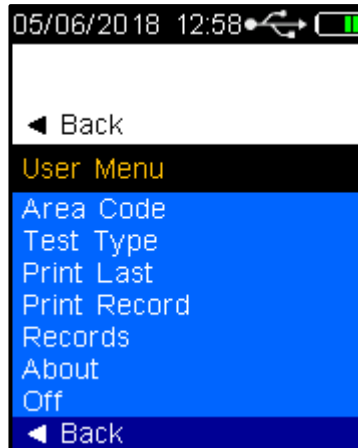

Figure 24 - Screen Back Selection
- Press the Up/down buttons until ◀ **Back** is highlighted (Refer to Figure 24).